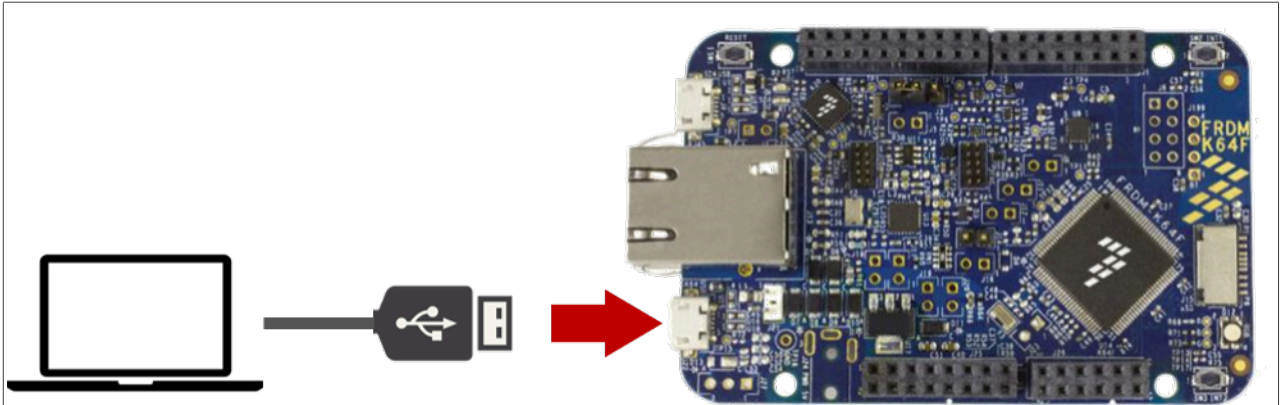

Figure 41. Connect FRDM-K64F usign VCOM
- 3. Now connect the FRDM-K64F board to the PC using the K64 USB port as shown in Figure 41: